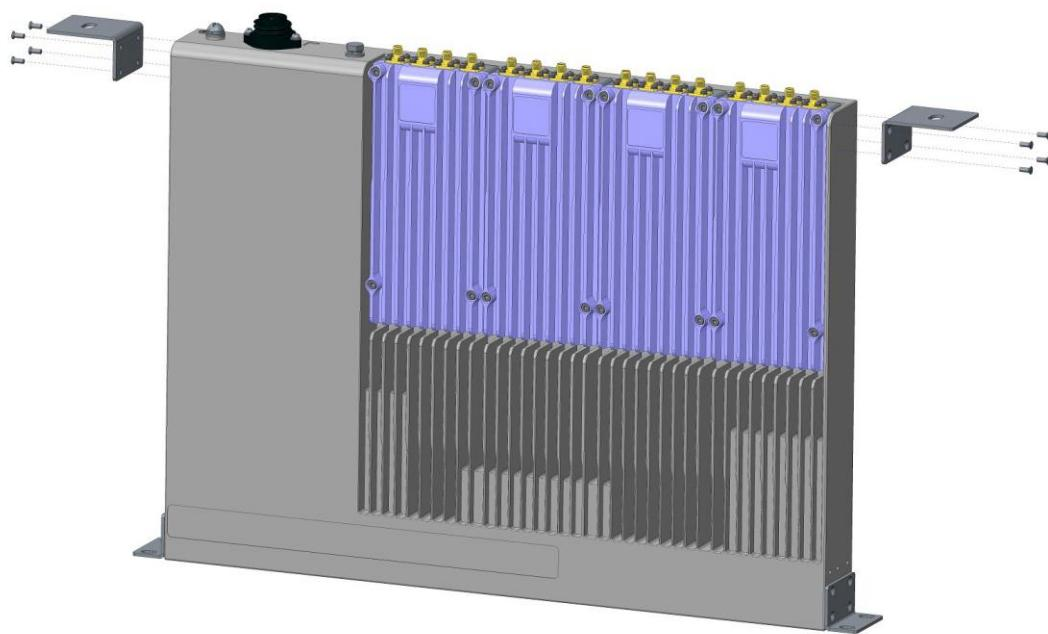

Figure 6-6 Step 1 of Suspension Installation
1. Fasten two hangers to the sides of device with 8 M3*6 screws. See Figure 6-6 for details.